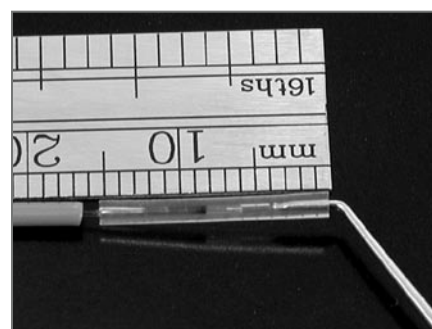

FIGURE 5C Swaging the sleeve
- Using a dissecting needle, such as that found in New Objective's Micro Tool Kit (order no. TIP-KIT), swage the inside of the cut FEP sleeve as in Figure 5C. The needle should come no closer than 2 mm to the frit. Do not contact the frit with the sharp end of the needle. Remove the needle from the sleeve.